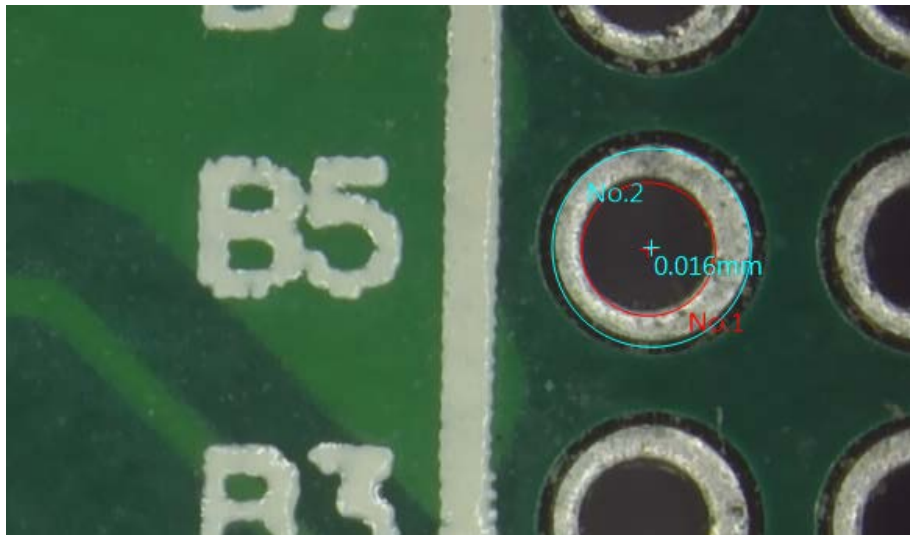

Fig 5-15 Offset Center
- Offset Center  : This drawing method is same as Two Center Distance. This function is to calculate the Offset distance between two circle center. See Fig 5-15.